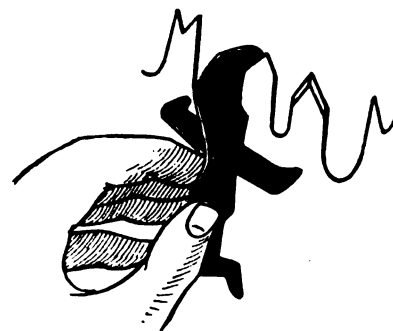

FIGURE 6
7. The amount of set necessary is determined by the kind of material to be cut. Perfect alignment is absolutely necessary. Therefore, always use the set gauge as shown in Figure 6.
Each tooth, after setting, should be gauged for accuracy, as shown in the cut illustrating the use of a set gauge. (Fig. 6.)